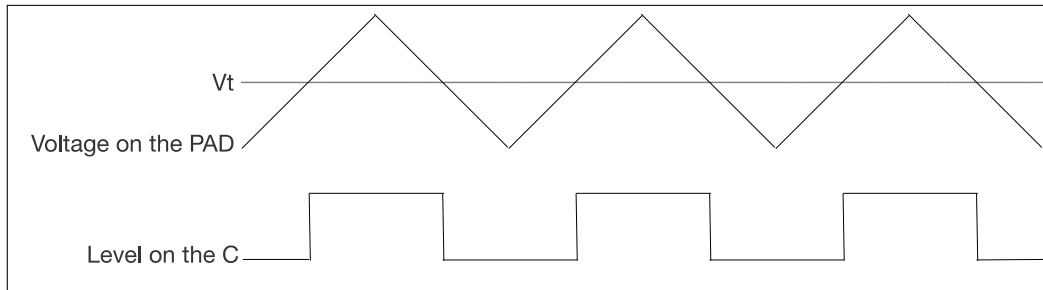

Figure 6-6. Example of level flip on the chip pad when the hysteresis function is not enabled
Each GPIO pin has hysteresis functionality. When hysteresis is not enabled, as shown in Figure 6-6, the level flip of the signal (C) input to the chip from the PAD has only one threshold (V_t , about 1.7 V). When the voltage on the PAD is higher than V_t , the level on the C is high. Otherwise, it is low. However, if the signal on the PAD has noise, it may affect the signal on C.